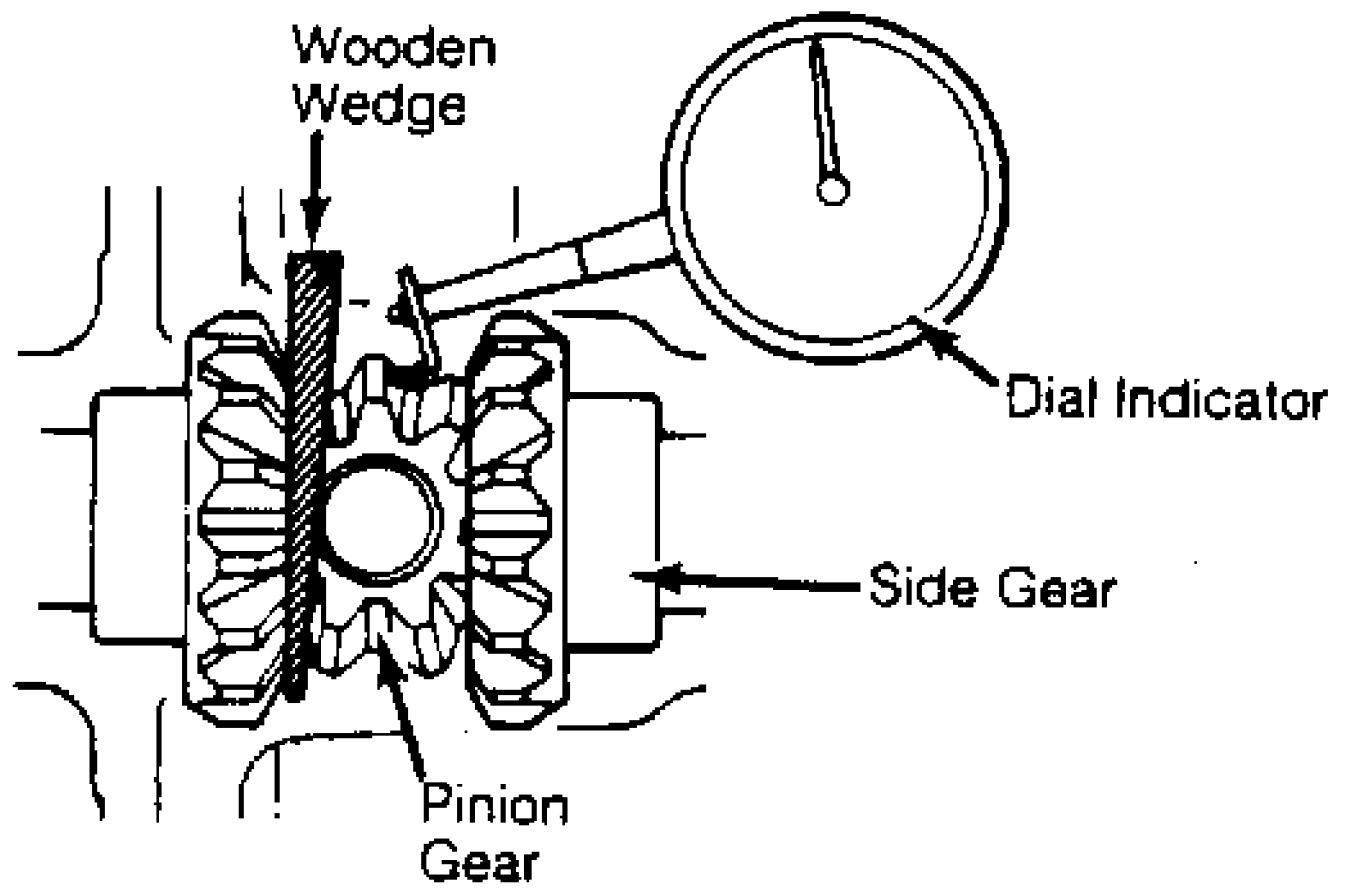

Fig. 3: Checking Pinion & Side Gear Backlash
2) Install pinion shaft without lock pin. Check pinion and side gear backlash. Install wooden wedge to lock side gears. Using dial indicator, measure gear backlash. See Fig. 3.